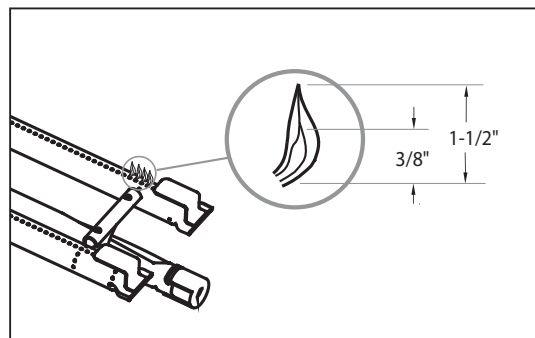
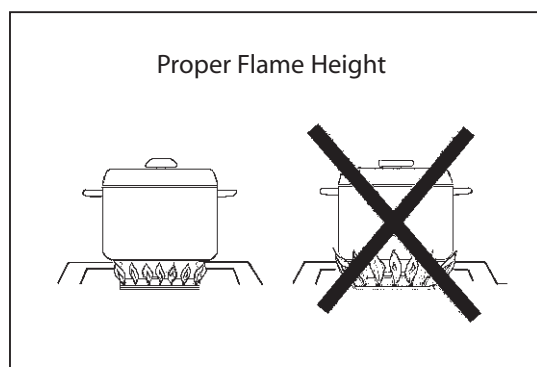

FIG. 07 Burner Flame Height
Fig. 08
To access the grill burner air shutters first remove the valve panel by removing it the same way as described on page 12, section "Before Testing". With a screw driver, loosen the lock-screw on the face of the air shutter. Light the burner and adjust according to the directions (Fig. 07).
- For safety reasons the flame must never extend beyond the bottom of the cooking utensil. Never allow flames to curl up the side of the pan (see Fig.08).
Each grill burner is tested and adjusted at the factory prior to shipment; however, variations in the local gas supply or a conversion from one gas to another may make it necessary to adjust the burners. The flames of the burners (except the rotisserie burner) should be visually checked and compared to that of the drawing in Fig.07 and Fig.08. Flames should be blue and stable with no yellow tips, excessive noise or lifting. If any of these conditions exist, check if the air shutter or burner ports are blocked by dirt, debris, spider webs, etc. Proceed with air shutter adjustment. The amount of air which enters a burner is governed by a sheet metal cup at the inlet of the burner called an air shutter. It is locked in place by a set screw which must be loosened prior to lighting the burner for adjustment.